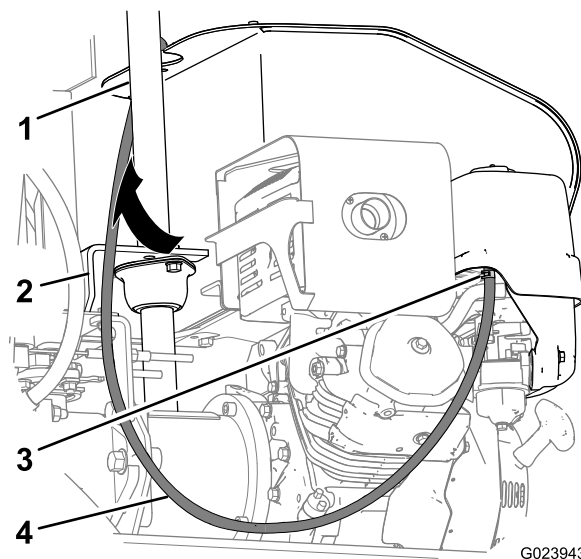

Figure 15
1. Align the vent hose from the fuel-tank service kit with the hose fitting at the bottom forward corner of the air-filter case (Figure 15).
2. Secure the hose with a clamp from the kit (Figure 15).
3. Route the vent hose forward of the handlebar column above the bearing-support bracket and up along the right side of the column as shown in Figure 15.